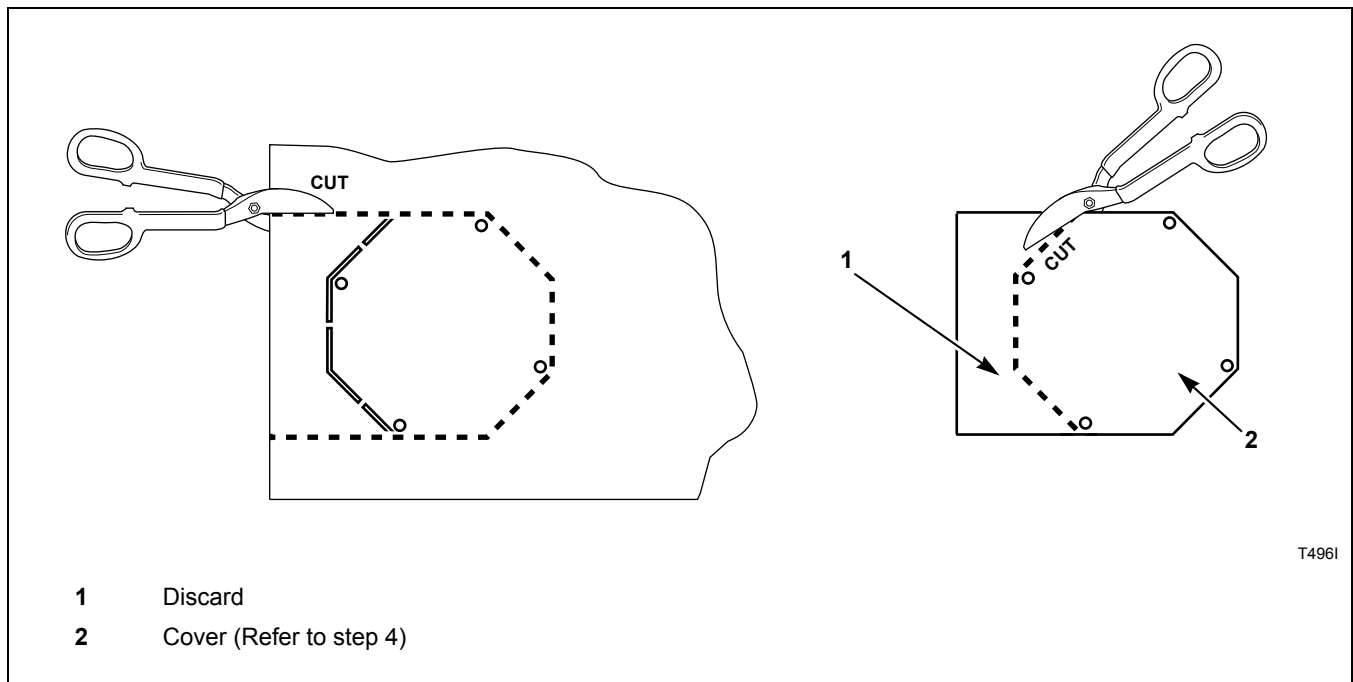

Figure 2
3. Cut out shape from belt guard cover. Refer to *Figure 2*.